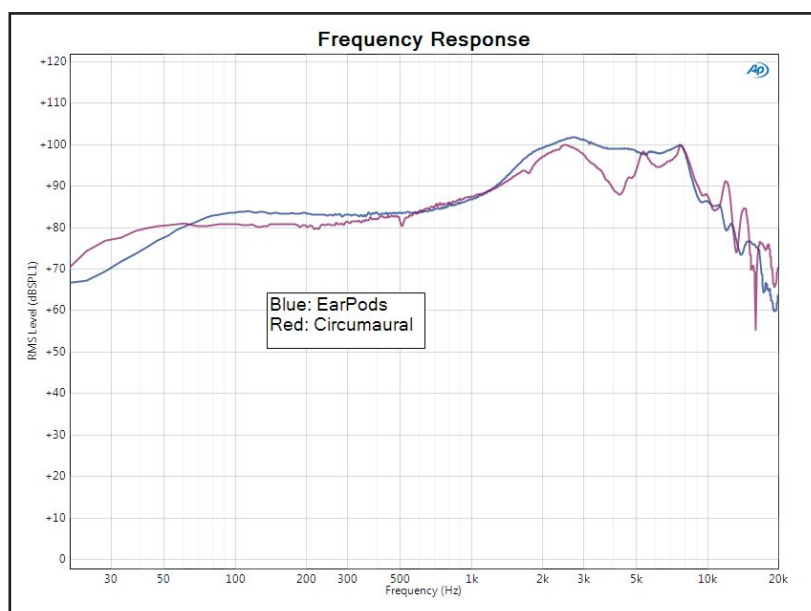

Figure 2: The comparison of the frequency response of the Apple EarPods and the circumaural headphones shows the expected differences in the bass response.
**Figure 2** shows the frequency response of the Apple EarPods versus the Superlux headphones. As one might guess, the Superlux circum-aural headphones show a much smoother and deeper bass response, very much in accord with my subjective perception. Acquiring these data was rapid and uneventful, which is a compliment! Interpretation of headphone response curves above the bass region is controversial, and of course, this response will vary from person to person.